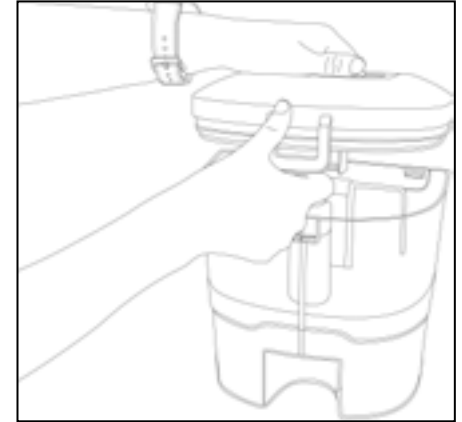

Fig. 4
4. Replace the lid onto the tank (Fig 4)